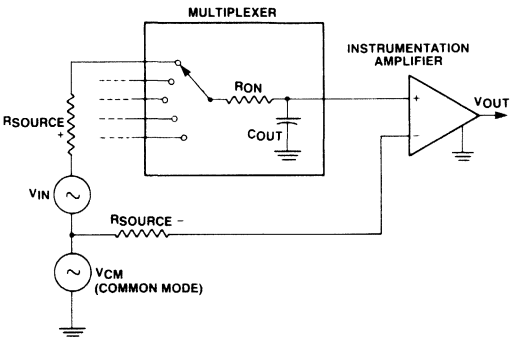
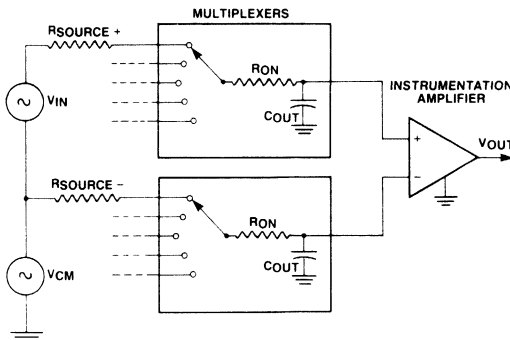

Figure 5. Pseudo-Differential Connection Degrades Common Mode Rejection
Figure 6. Balanced Differential Approach Preserves Common Mode Balance
2. R_i and C_f are designations from Figure 5.
The 12-bit DAC system described above can be upgraded to 14 bits by using Hybrid Systems' HS 3140. The HS 3140 is a single chip DAC implemented using decoding and binary weighting. The improved DAC performance has been discussed above. Monotonicity is guaranteed from $-25^\circ C$ to $+85^\circ C$ and the specified stability of 1ppm/ $^\circ C$ Max. is not matched by competitive devices. The diagram in Figure 10 can be used along with external input latches shown in Figure 6.
2. The CMRR of the instrumentation amplifier may be effected by the circuitry around it. A "pseudo differential" setup in which all inputs share a common remote signal ground, can reject general differences between input signal ground and measurement system ground (Figure 5). It does not, however, possess individual differential input signal pairs. This can cause low CMRR particularly at high frequencies. This is because the sum of the source resistance, multiplexer channel resistance, and multiplexer output capacitance form an RC pole. This attenuates any common-mode signal on the + input. A truly differential approach (Figure 6), contains an RC pole in each input lead, preserving the common-mode balance. This does assume that the + input and - input source resistors are kept balanced.